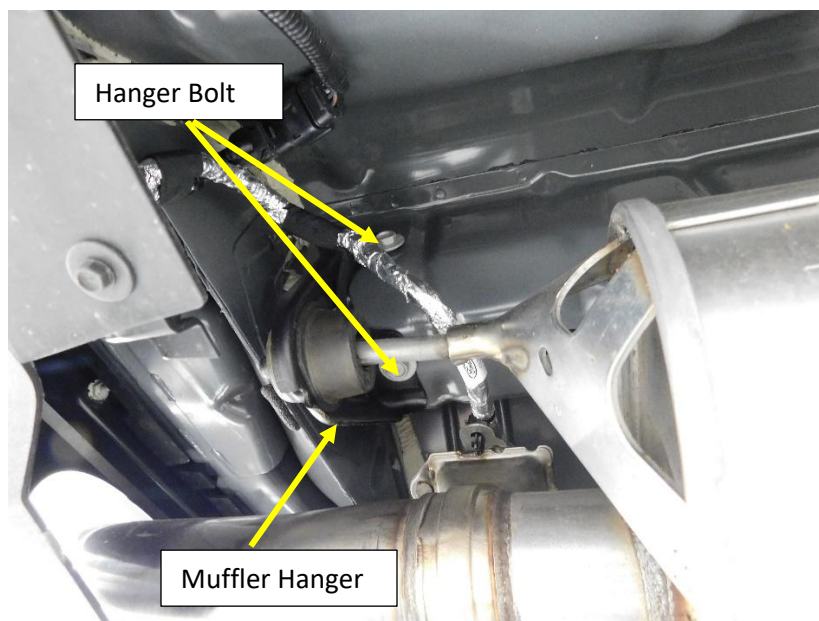

Figure.5
6. Remove the (x2) bolts from the Muffler hanger mounts directly over the mufflers. **Fig.5**